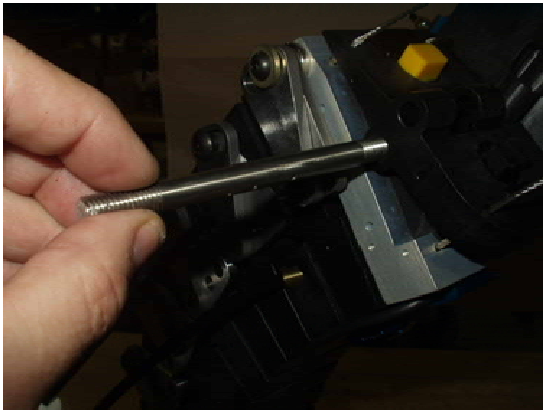
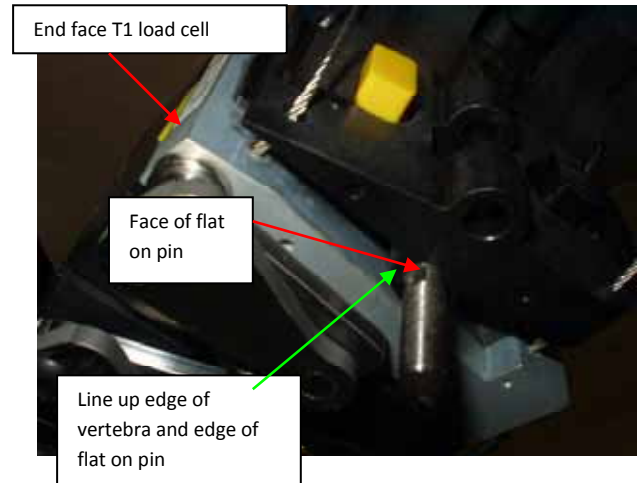

Figure 113 - Insert T1 Pin
Figure 114 - T1 Pin Alignment
17. Re-install T1 pin thru C7-T1 joint (Figure 113). **Use care to avoid damaging C7 or especially the T1 load cell joint with the threads on the T1 pin!** Be sure to line up edge of flats on pin to edge of vertebrae (Figure 114) and orient face of flat to be parallel with back end face of T1 load cell. This must be done to line up threaded holes for M2.5 SHCS.